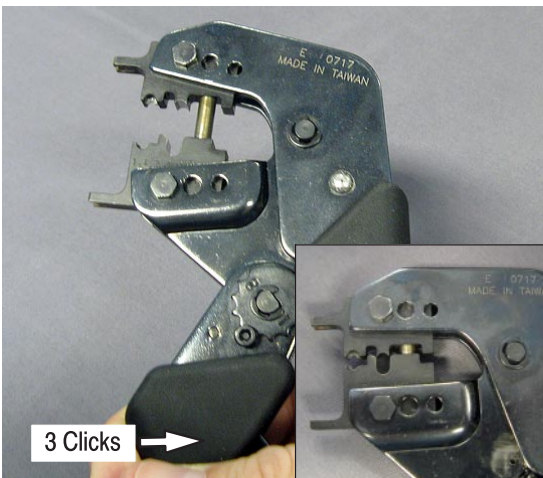

Figure 48
10. Fully open the crimp tool and then close it three clicks to set the position of the die. See Figure 48.